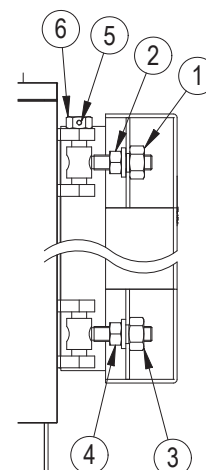

fig. 10
5.6.2 Per modelli PREXTHERM RSW 720N+1060N (Fig. 10)